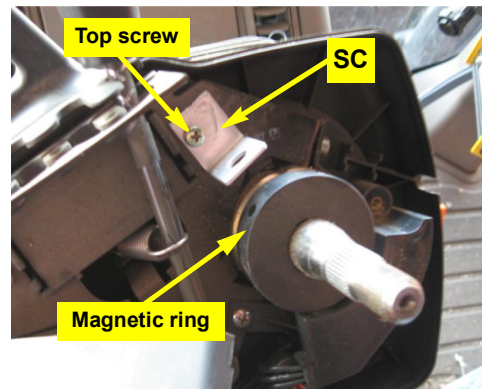

Figure 1c: Installed switch bracket
- d. Remove the top screw (at the 11 o'clock position) and, using that screw, install switch bracket **SC** squarely facing the magnetic ring (Figure 1c).